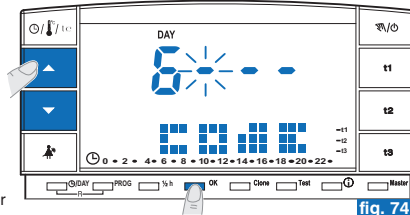
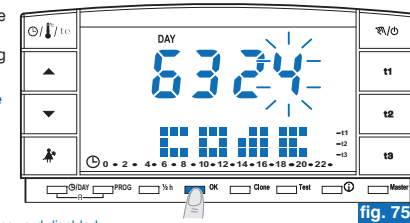

fig. 74
fig. 75
- Set the desired level with  ; press **OK** to confirm (e.g. fig. 74). Follow the same procedure for the other three hyphens (e.g. fig. 75).
- Enter the current password with keys $\blacktriangle$ and $\blacktriangledown$; press **OK** to confirm each entered value (example in fig. 75).